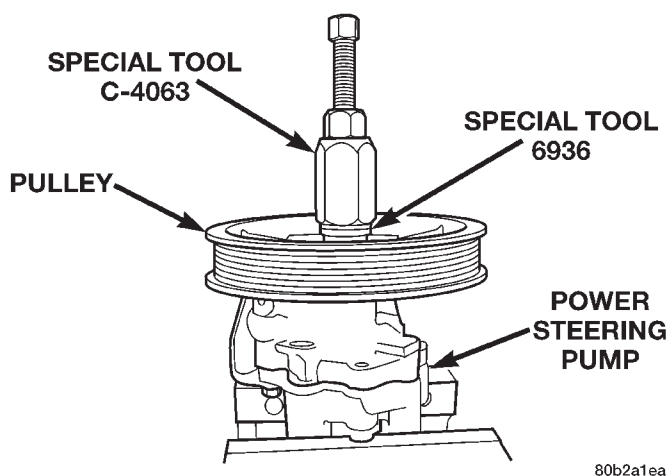

Fig. 19 Installing Power Steering Pump Pulley
the Installer into the end of the power steering pump shaft (Fig. 19). Tighten the installer into pump shaft.
(4) Holding the Pulley Installer with one wrench so it will not rotate, turn hex (Fig. 19) down threaded rod of installer pushing the pulley onto the shaft of the power steering pump (Fig. 19). Ensure that the tool and the pulley remain aligned with the pump shaft so pulley does not become cocked on shaft.